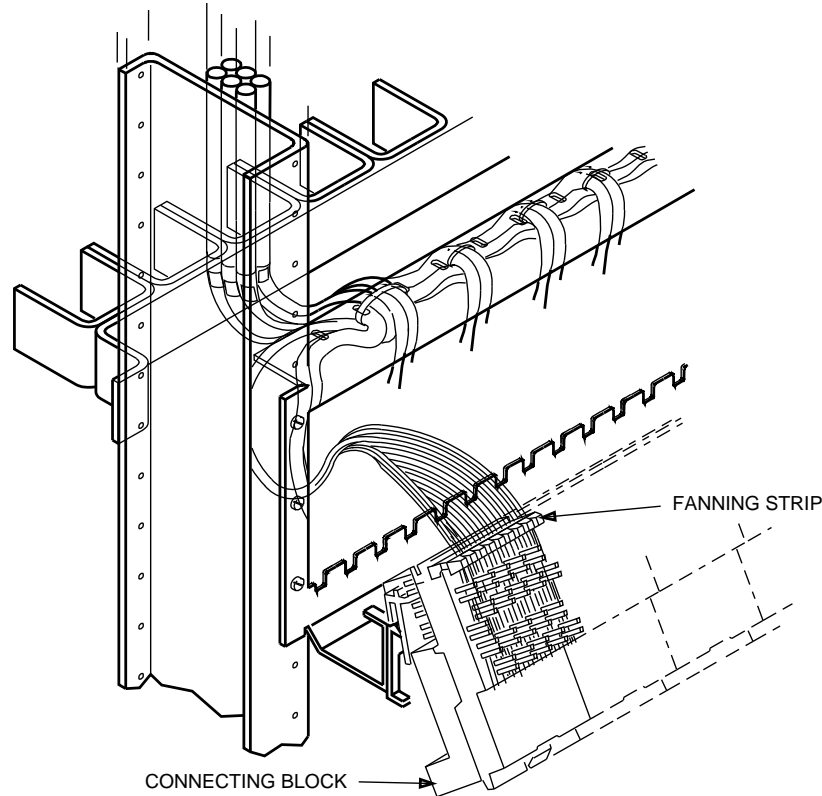

Figure 6. Install Connecting Block Wiring
1. Pull free end of formed cable legs and dress conductors over fanning strip and down across the back of the block (see Figure 6).